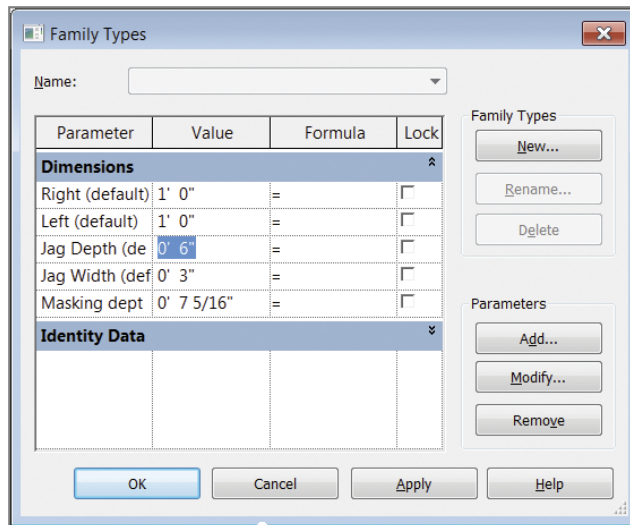

FIGURE 6.38 Change the Jag Depth value to flex the masking region.
- Go to the Modify | Detail Items tab's Properties panel, and click the Family Types button. Change the Jag Depth value to 0'-6" (150 mm), as shown in Figure 6.38, and then click Apply. The size of the jag in the masking region should change. Try a few different values for Jag Depth to make sure the masking region flexes correctly. Click OK to close the dialog box.